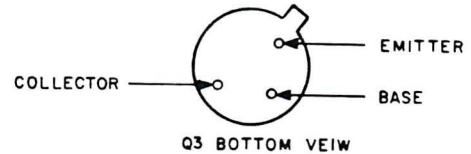

Figure 4-8. Q3, Bottom View.
11. Referring to figure 4-8, cut the base lead of the MRD 370 (Q3) 1/2 in (2 cm) from the case, and cover with heat-shrink tubing. Cut the collector and emitter leads 1 in (4 cm) from the case.